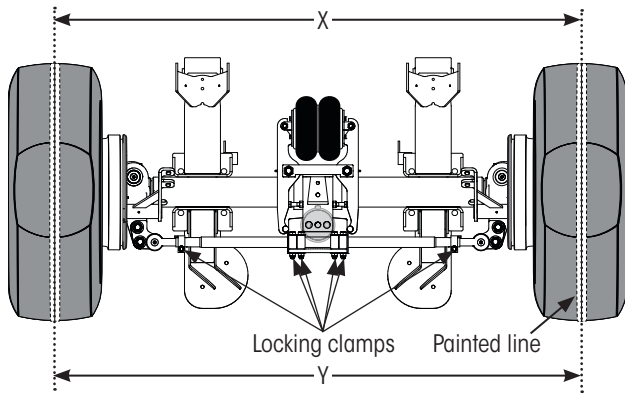

Figure 32: Toe Measurements (bottom view)
3. While rotating wheel, **paint** a line around the center of the tire tread, full circle (Figure 32).
10. **Loosen** all tie rod locking clamps Figure 32. Skip this step if already loose.
4. **Tighten** tie rod bracket clamp bolts (Figure 32) to 95±5 ft. lbs. (130±5 Nm) of torque.